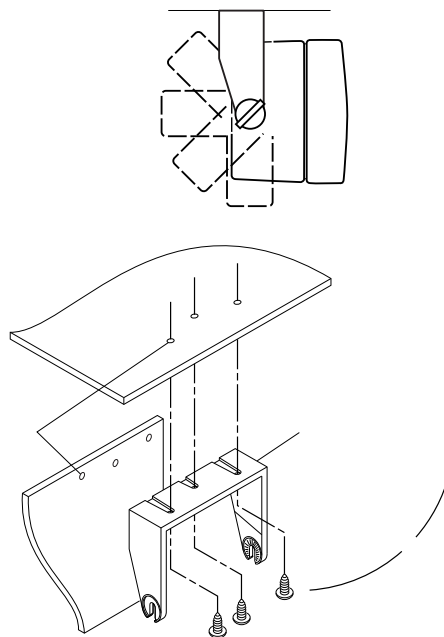

Figure 38 Mounting the Speaker under the Dashboard
5. Mount the trunnion bracket with the screws supplied (see Figure 38).